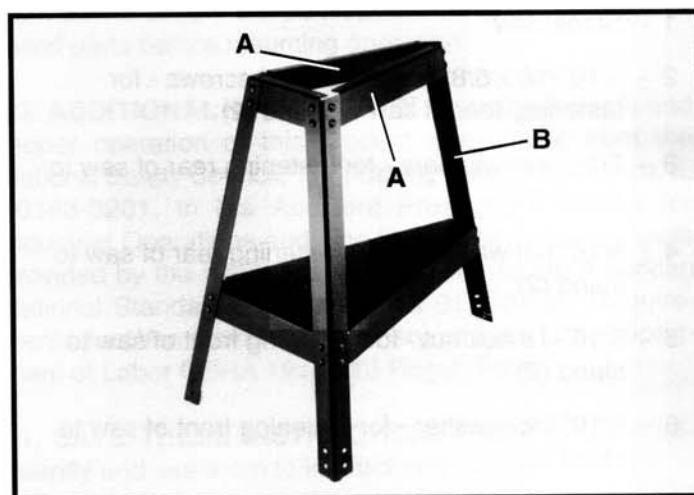

Fig. 4
1. Assemble the stand, as shown in Fig. 4, using the 24 carriage bolts, flat washers and hex nuts. **NOTE:** The round holes on the top of the two top braces (A) are to be positioned toward the rear leg (B) and all three legs are positioned outside the bottom shelf and top braces. **DO NOT TIGHTEN STAND MOUNTING HARDWARE AT THIS TIME.**